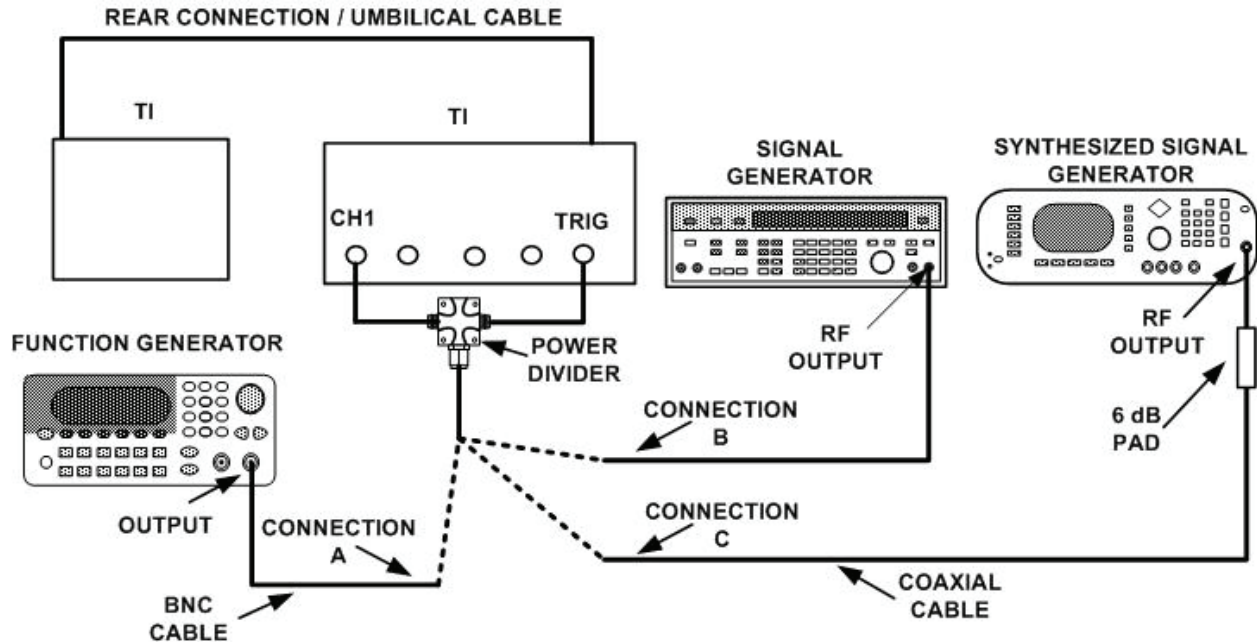

Figure 7. Trigger sensitivity low frequency, 100 MHz and 2.5 GHz - equipment setup.
(2) Press **SYSTEM CONTROL SAVE SETUP** and **ENTRY 4** pushbuttons. Press **More** and **Channels** keys and set **Channel 1** and display **On** is highlighted.
(3) Connect equipment as shown in figure 7, CONNECTION A.
(4) Set function generator for a frequency of 100 kHz and amplitude of 100 mV p-p sine wave.
(5) Adjust function generator for a signal of 100 mV p-p as indicated on TI display.
(6) Press **More**, **Trigger** and **TRIGGER LEVEL** keys. Slowly adjust the **RPG** control cw until trigger level on the TI just stops triggering. Press the **SYSTEM CONTROL CLEAR DISPLAY** pushbutton each time the trigger level is changed until no trigger is displayed. Record the trigger level setting (_____). This value is V_{pos} .
(7) Reset the trigger level to 0.000 V and slowly adjust the **RPG** control ccw until trigger level on the TI just stops triggering. Press the **SYSTEM CONTROL CLEAR DISPLAY** pushbutton each time the trigger level is changed until no trigger is displayed. Record the trigger level setting (_____). This value is V_{neg} .
(8) Calculate the hysteresis. $V_{hysteresis} = 100 \text{ mV} - (V_{pos} - V_{neg})$. The value will be $\approx 40 \text{ mV}$.
(9) Set the trigger level to 0.000 V. **HF Sens** and **HF Reject** to **Off** is highlighted.
(10) Press **Timebase** and **TIME/DIV** keys and set **Sweep Speed = 2.00 ns/div**.
(11) Connect equipment as shown in figure 7, CONNECTION B.
(12) Set signal generator for a frequency of 100 MHz and amplitude of V p-p 150 mV as displayed on screen.
(13) Slowly adjust the **RPG** control cw until trigger level just stops triggering. Record the trigger level setting (_____). This value is V_{pos} .
(14) Reset the trigger level to 0.000 V and slowly adjust the **RPG** control ccw until trigger level just stops triggering. Record the trigger level setting (_____). This value is V_{neg} .
(15) Calculate the sensitivity. $V_{sense} = 150 \text{ mV} - (V_{pos} - V_{neg})$. The value will be $\approx 40 \text{ mV}$.
(16) Reset the trigger level to 0.000 V.
(17) Set **HF Reject** to **On** is highlighted and repeat (13) through (15) above. The value will be $\approx 57 \text{ mV}$ (+ 3 dB).
(18) Reset the trigger level to 0.000 V.
(19) Press **Timebase** key and set **Sweep Speed = 100 ps/div**.
(20) Press **Channels** and **VOLTS/DIV** keys and set **Sensitivity = 50.00 mV/div**.
(21) Press **Trigger** key and set **TRIGGER LEVEL** to **Trigger Level = 0.000 V**; **HF Sens** and **HF Reject Off** is highlighted.
(22) Connect equipment as shown in figure 7, CONNECTION C.
(23) Set synthesized signal generator for a frequency of 2.5 GHz and amplitude of V p-p 200 mV as shown on display.